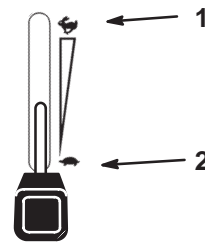

Figure 16
1. Push the PTO to off (Fig. 16).
2. Move the throttle lever midway between the slow and fast positions (Fig. 16).